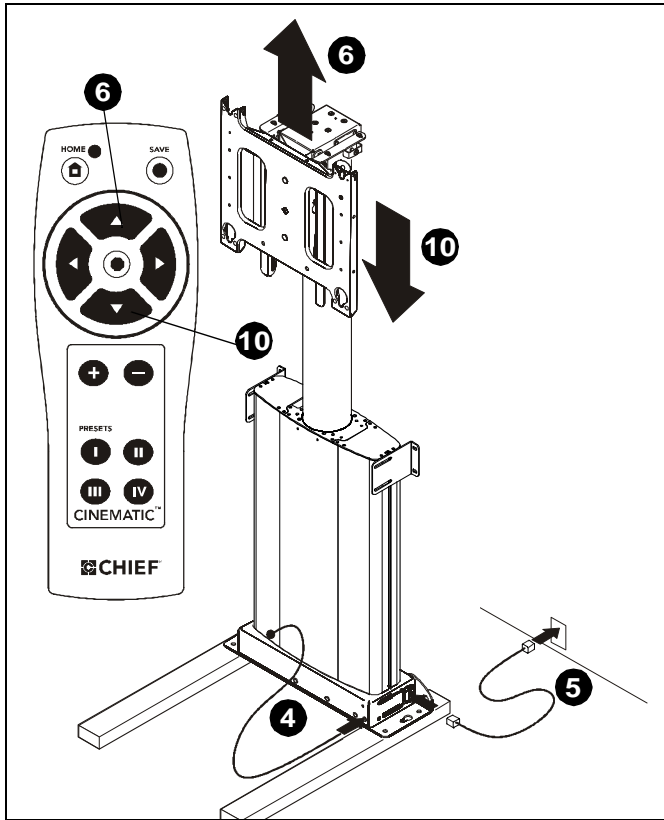

Figure 3
4. Install IR receiver. (See Figure 3)
6. Using the remote control, raise lift until locknuts on back side of faceplate can be accessed. (See Figure 3)
10. Using the remote control, lower the lift until it stops. (See Figure 3)
11. Raise lift following instructions in Step 6. (See Figure 3)